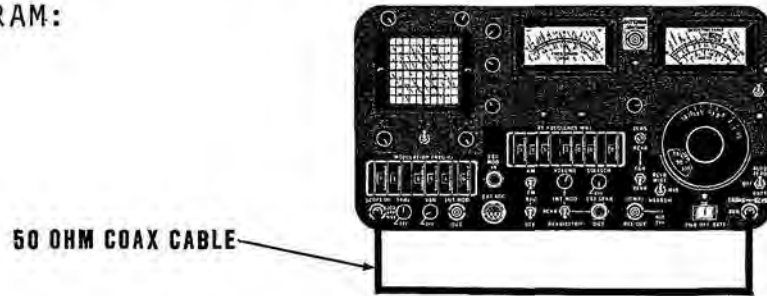

Figure 3-13 Signal Generator Test Set-Up Diagram
| 2. | Connect 2-foot length of 50 Ω coax cable between TRANS/RCVR Connector (9) and SCOPE IN Connector (28) as shown in Figure 3-13. |